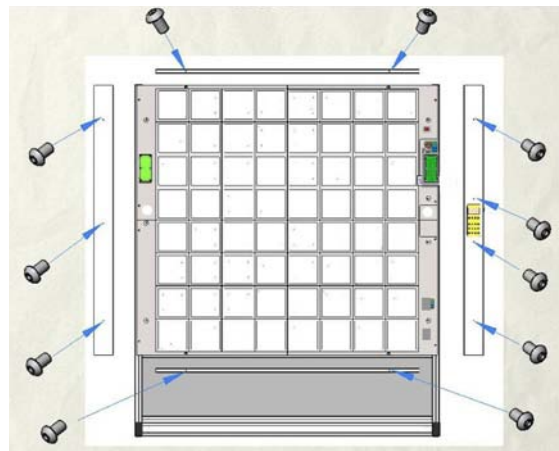

fig. 3.1-37
**Step 28** Screw the lateral stainless steel frame covers **B1** and **B2** and the upper / lower stainless steel frame cover **B3** respectively to the threaded bolts attached to the basic modules using the eleven (11) fillister head screws **M6 x 10** provided and the corresponding Allen key (*fig. 3.1-37*). Please remove the protection film before you assemble the frame cover.